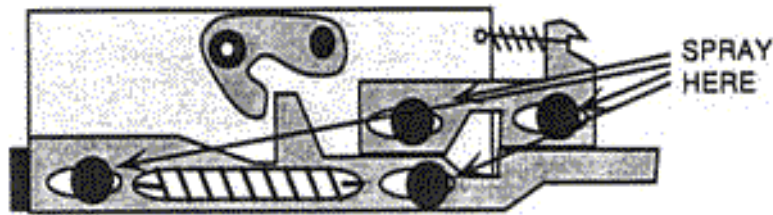

Figure 21
10. Set up a disposable aluminum tray as shown in Figure 21. Hold the eject mechanism over the tray and spray the remaining grease away with WD-40.